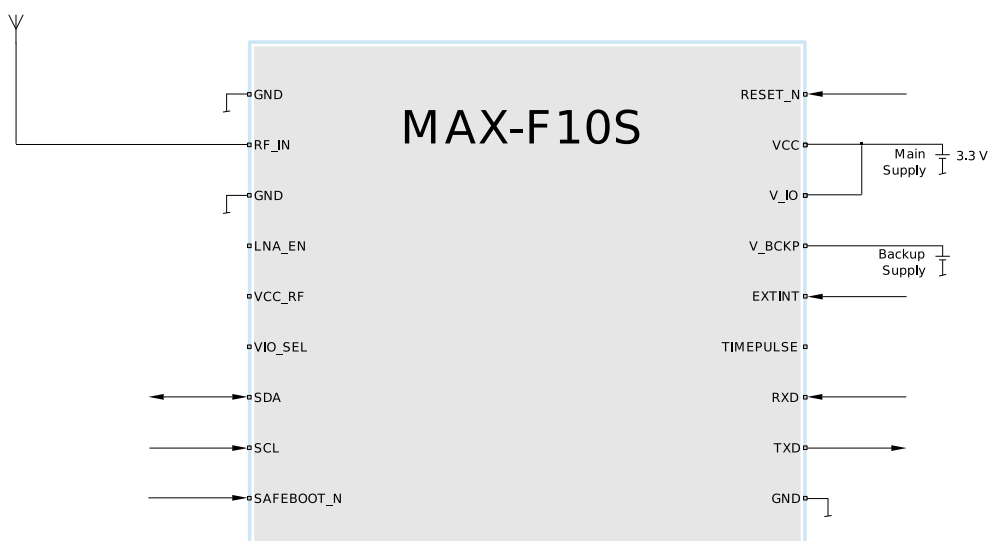
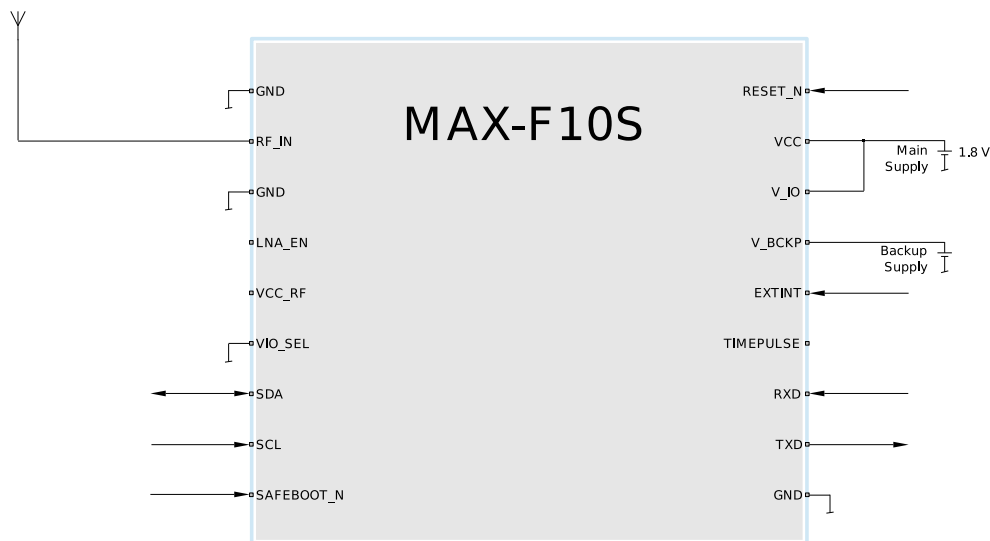

Figure 30: Typical 3.3 V design
Figure 31: Typical 1.8 V design
- VCC and V_IO are connected together to a single supply. In designs with 3.3 V supply, the VIO_SEL pin must be left open, as shown in Figure 30. In designs with 1.8 V supply, the VIO_SEL pin must be connected to GND, as shown in Figure 31.